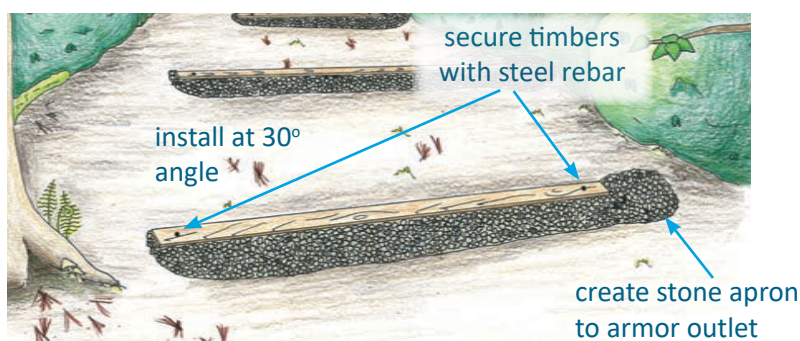

Figure 1. Top view of water bar.
STEP 1 – Dig. Dig a trench for the wood timber or log that is at approximately a 30° angle across the path. The trench should be deep enough so the top of the timber or log will be almost flush with the trail on its downhill side, once in place. Be careful to dig only as deep as needed to set the timber to make sure that the soil under the water bar is stable (Figures 1 and 2).